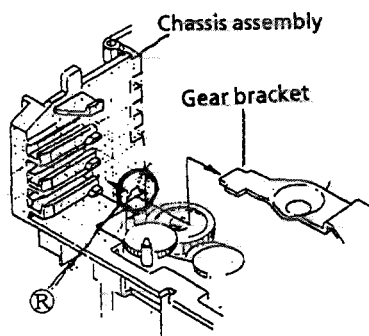

Fig. 2-19
3. Remove the gear bracket from the chassis ass'y's ㊞ securing top of the gear bracket. (See Fig. 2-19.)